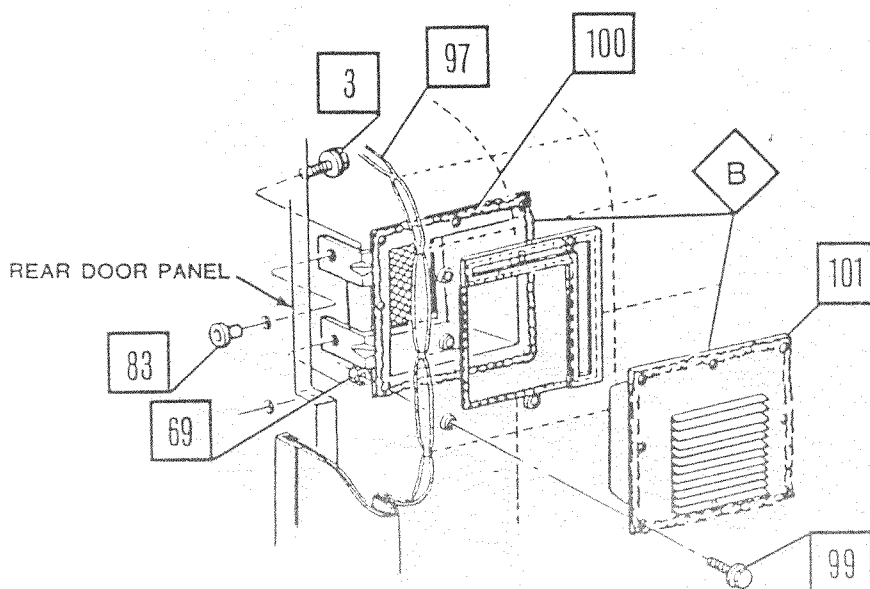

Figure 27.
87. Install "T" nuts in holes on right rear side panel (Figure 27.).
88. Apply 3/16 inch bead of sealer to air exhaust vent assembly (Figure 27.).
89. Apply 3/16 inch bead of sealer on air exhaust vent louver assembly. Install air exhaust vent louver assembly to air exhaust vent assembly with nuts and bolts through cover (Figure 27.). Tighten bolts to 50-65 lb.-in. (6.0-8.0 Nm).